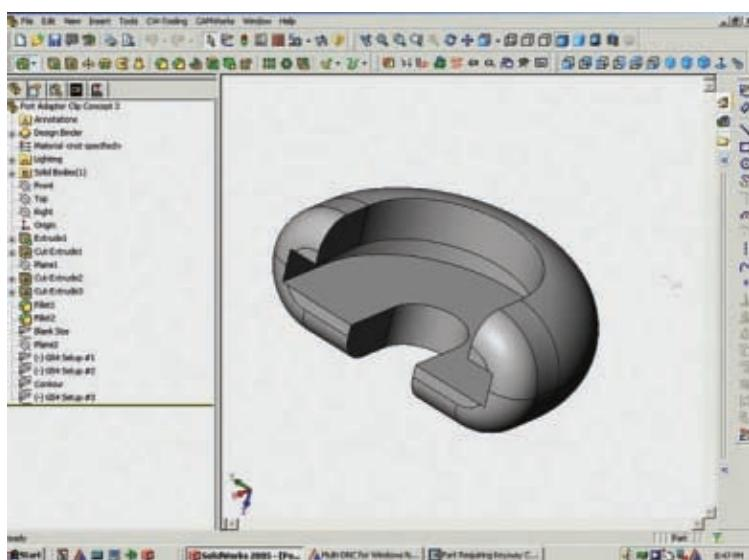
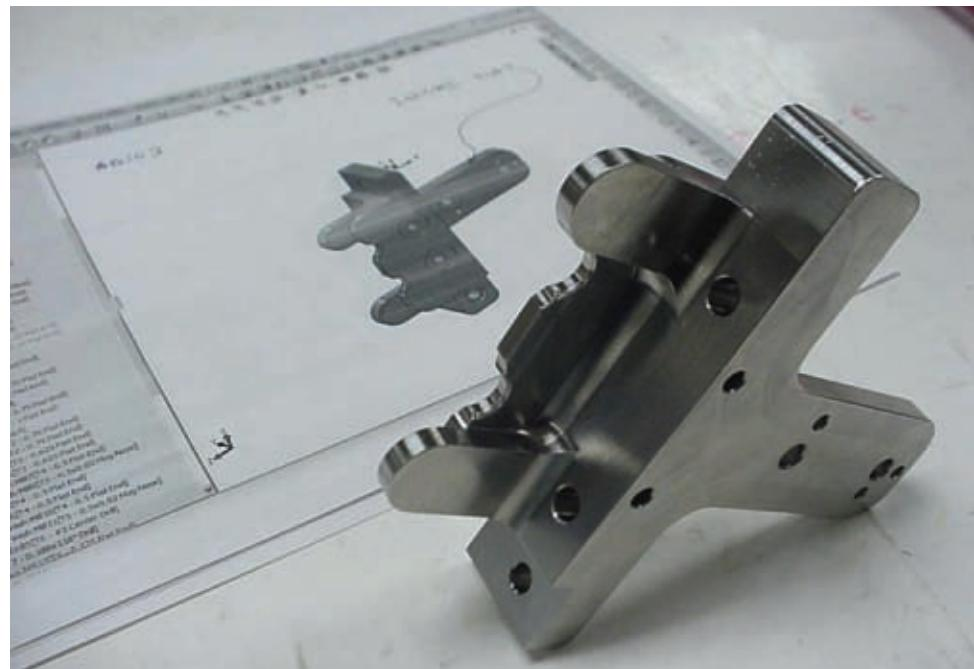

Figure 1-1 Parts are often easier to model than they are to machine.
Figure 1-2
1. Initiate a new project with proper planning. (see Fig. 1-1 and Fig. 1-2)